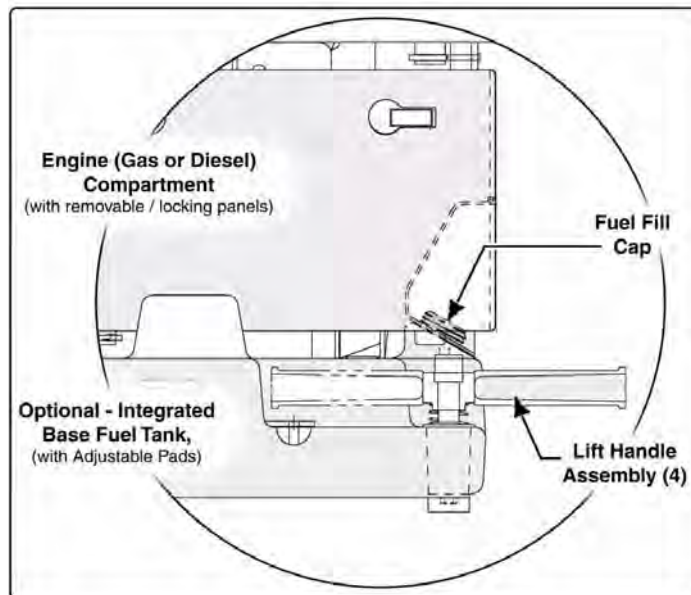

Figure 3-9: Typical Fuel Cap
4. If the fuel tank is provided, remove the fuel cap to check the fuel level. (See Figure 3-9: "Typical Fuel Cap.")